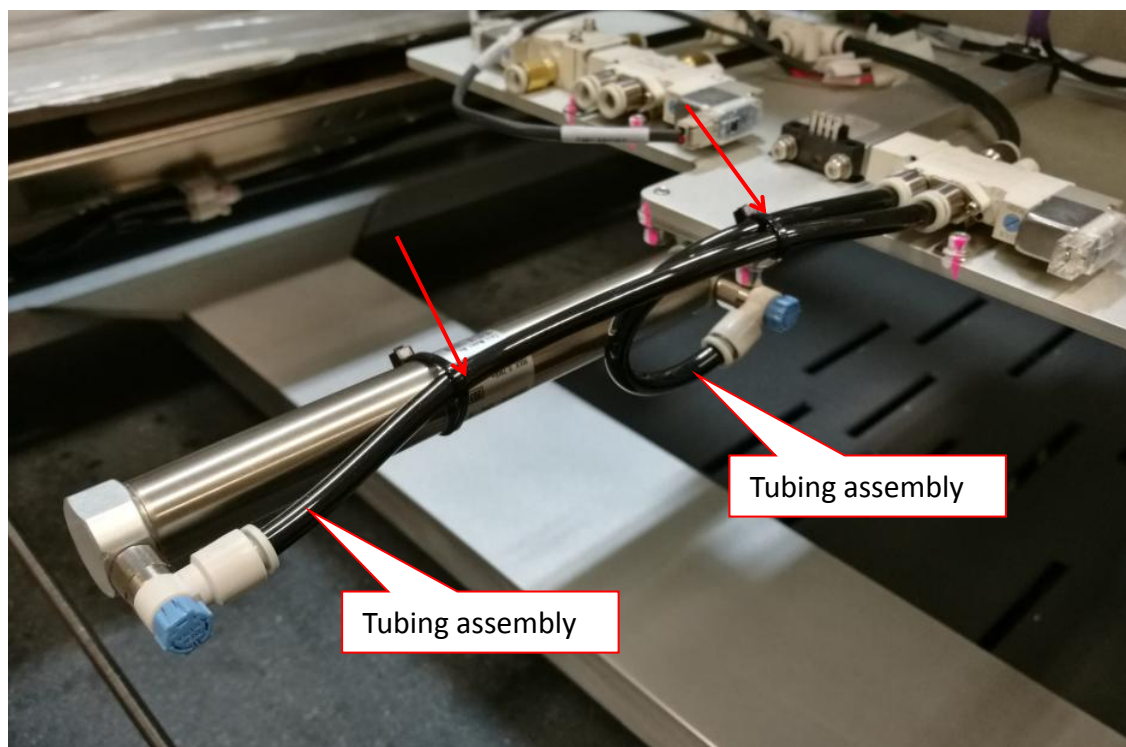

Figure 4 Tubing assembly
7. Plug back 2 x Tubing. Apply Cable Tie as shown in Figure 4